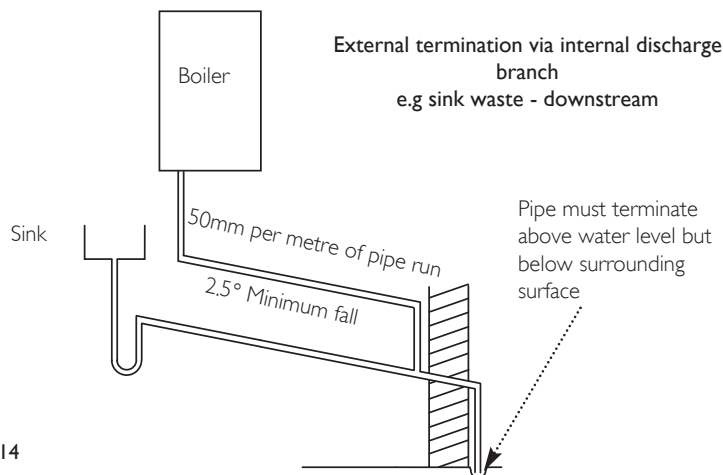

Fig. 14
- ii) via an internal discharge branch (e.g. sink waste) - Fig. 14